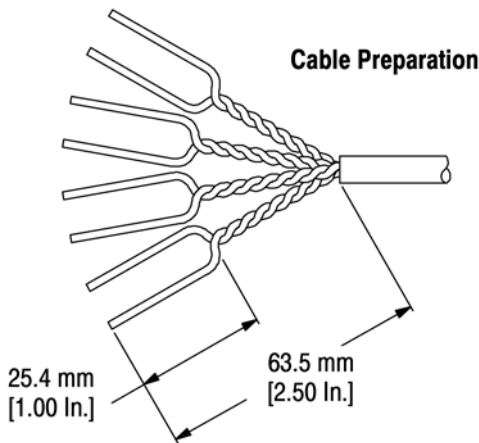

Figure 2
1. Select the appropriate cable size and prepare the cable as shown in Figure 2.
1. Strip the cable jacket and untwist the individual conductors to the dimension shown in Figure 2.